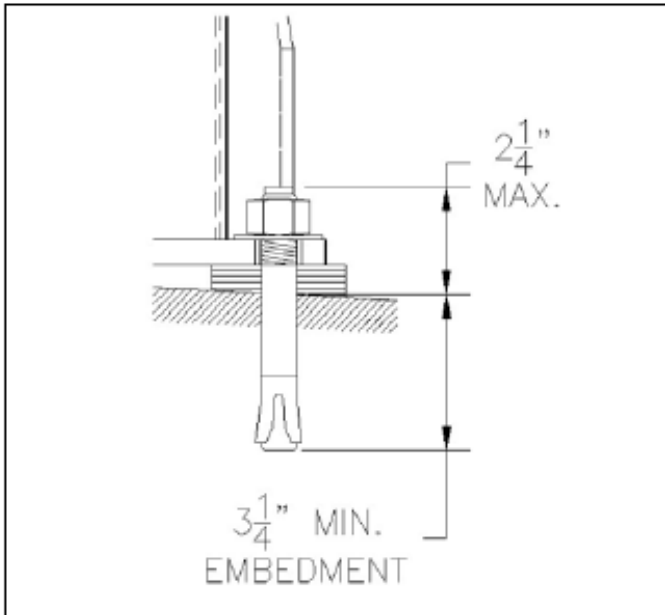

Figure 29: Embedment
8. Check the distance from the top of the anchor to the floor. If this dimension exceeds 2 1/4" due to floor slope, **DO NOT** use the supplied anchors. Longer anchor must be used. See **Figure 29**.
NOTE: The 3/4" x 5 1/2" lg. wedge anchor bolts supplied must have a minimum embedment of 3 1/4" into concrete floor (see **Figure 29**).